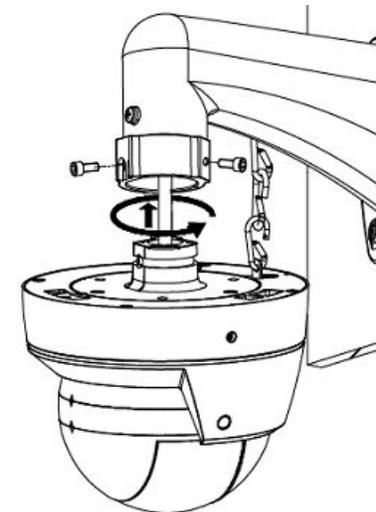

Figure 2-4
Step 4 Thread the cabling through the collar and base. Install the camera to the collar adapter and secure with set screws. Installation of support cable/ chain is recommended as well. See Figure 2-4.